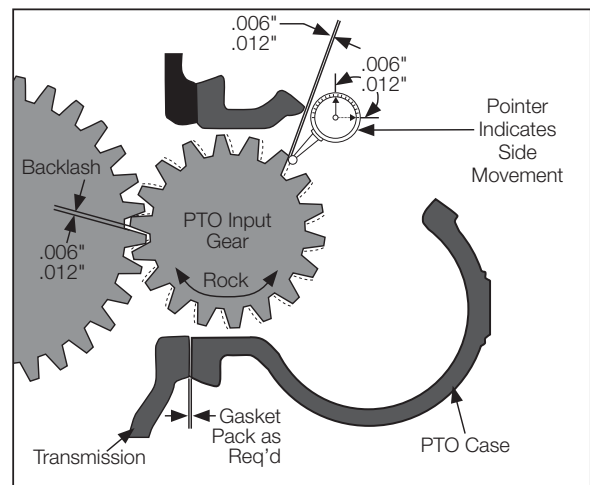

Figure 42
**NOTE:** For proper location of dial indicator contact point see (**Fig. 42**).